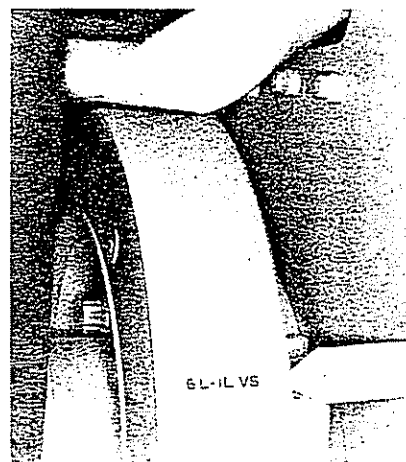

Fig. 2-59, (K21917). Valve set marks on vibration damper —KT/KTA38
1. When viewing the engine at the vibration damper, Fig. 2-59, align the timing marks on the damper with the pointer on the gear case cover.